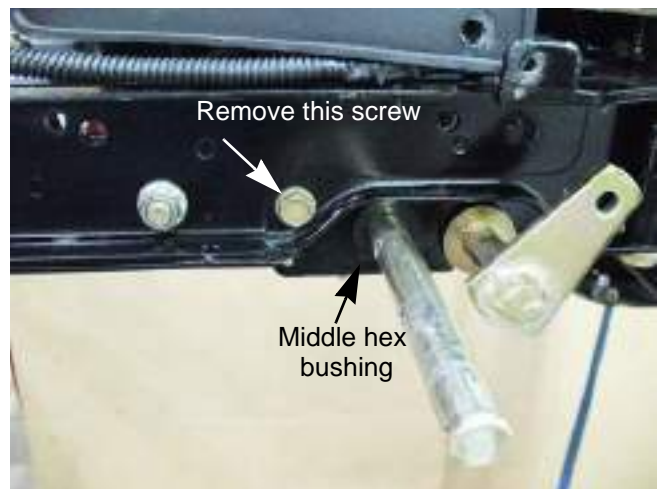

Figure 5B.52
14. Remove the middle hex bushing. See Figure 5B.52